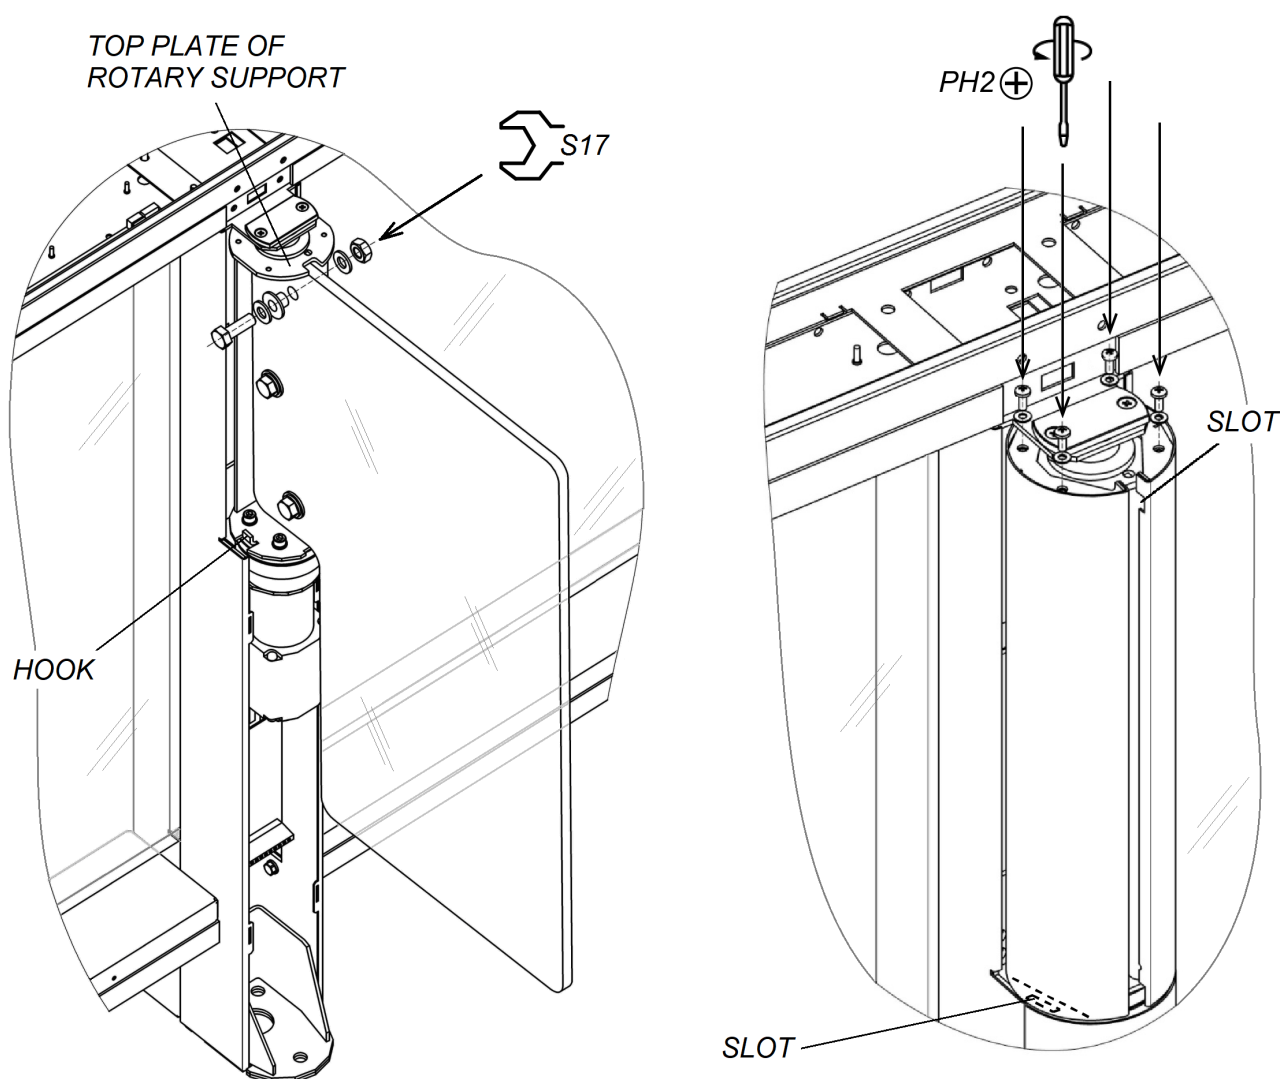

Figure 23. Swing panel and its cover plate
Two people shall install and remove the swing panels. The swing panel is fixed to the rotary support in three places with M10×30 bolts, washers 10, plastic bushings, and M10 nuts (Fig. 23). Use S17 horn-type wrenches.
2. Mount one of the cover plate components on the rotary support. To do this, mount the cover plate on the upper plate of the rotary support through the slots at the top of the cover plate. After that, shift the cover plate down to the end, inserting the cover plate's lower slot on a hook located at the bottom of the rotary support (Fig. 23).